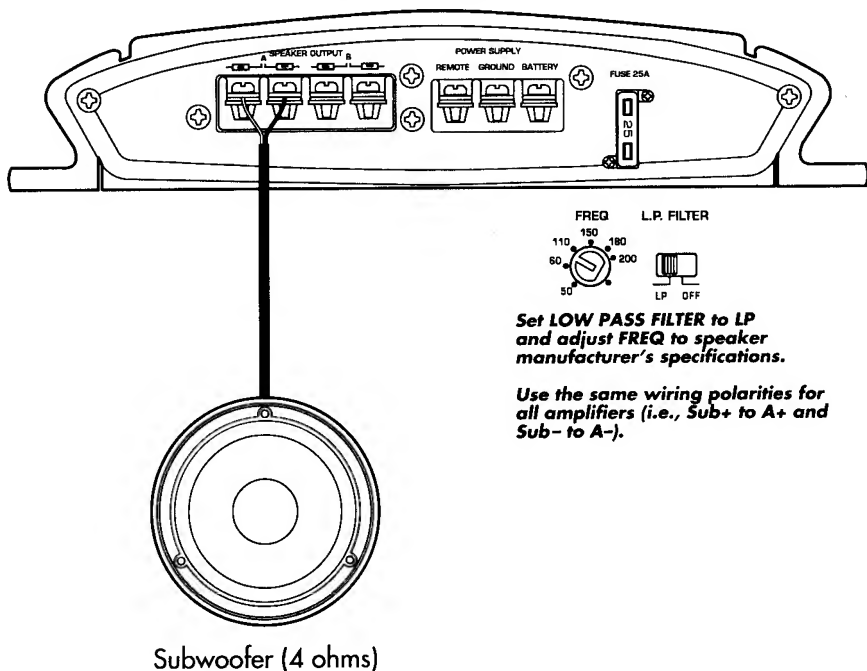

Figure 4. In this application, an APA1100 drives a single 4-ohm subwoofer with 100 watts of continuous average power.
The Clarion APA1100 mono car audio amplifier can be used in a variety of system applications. Here are three examples to help plan your own installation (see Figures 4 through 6).
- ◆ Depending on the type of system being installed, refer to the examples in Figures 4 through 6 (starting on page 6) for information on wiring and setting the operation mode.